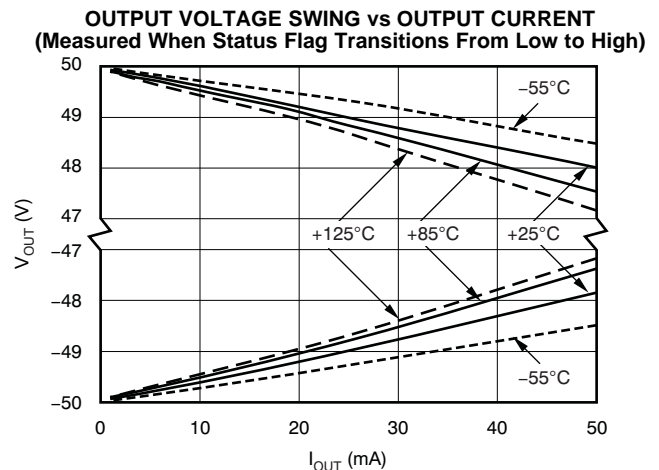
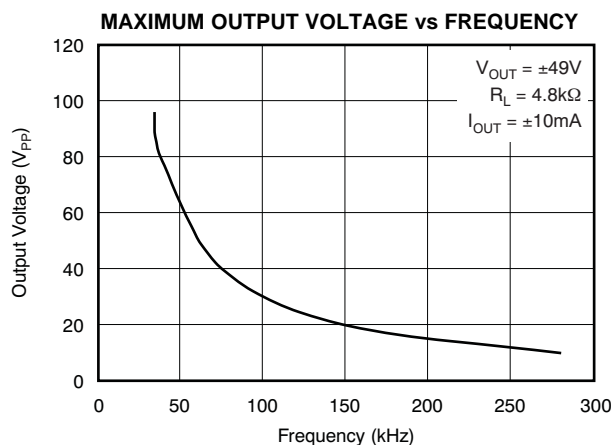
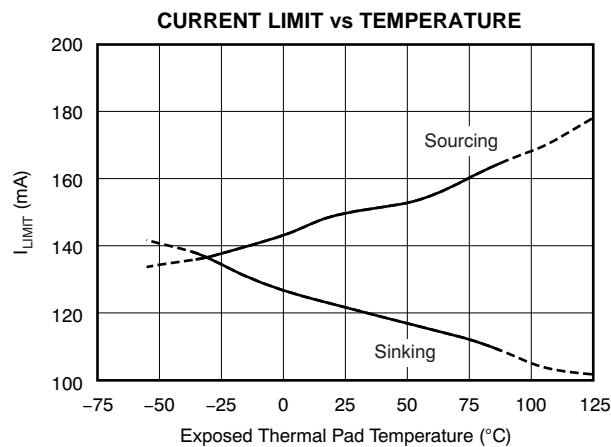

Figure 11.
Figure 12.
Figure 24.
(5) See Typical Characteristic curves.(6) See typical characteristic curve, *Maximum Output Voltage vs Frequency* (Figure 12).(7) See the Applications Information section, Settling Time.(8) Supplies reduced to allow closer swing to rails due to test equipment limitations. See typical characteristic curve *Total Harmonic Distortion + Noise vs Temperature* (Figure 30 and Figure 31) for additional power levels.(9) See typical characteristic curve, *Output Voltage Swing vs Output Current* (Figure 11).(10) Measured using low-frequency (<10Hz)  $\pm 49V$  square wave. See typical characteristic curve, *Current Limit vs Temperature* (Figure 24).